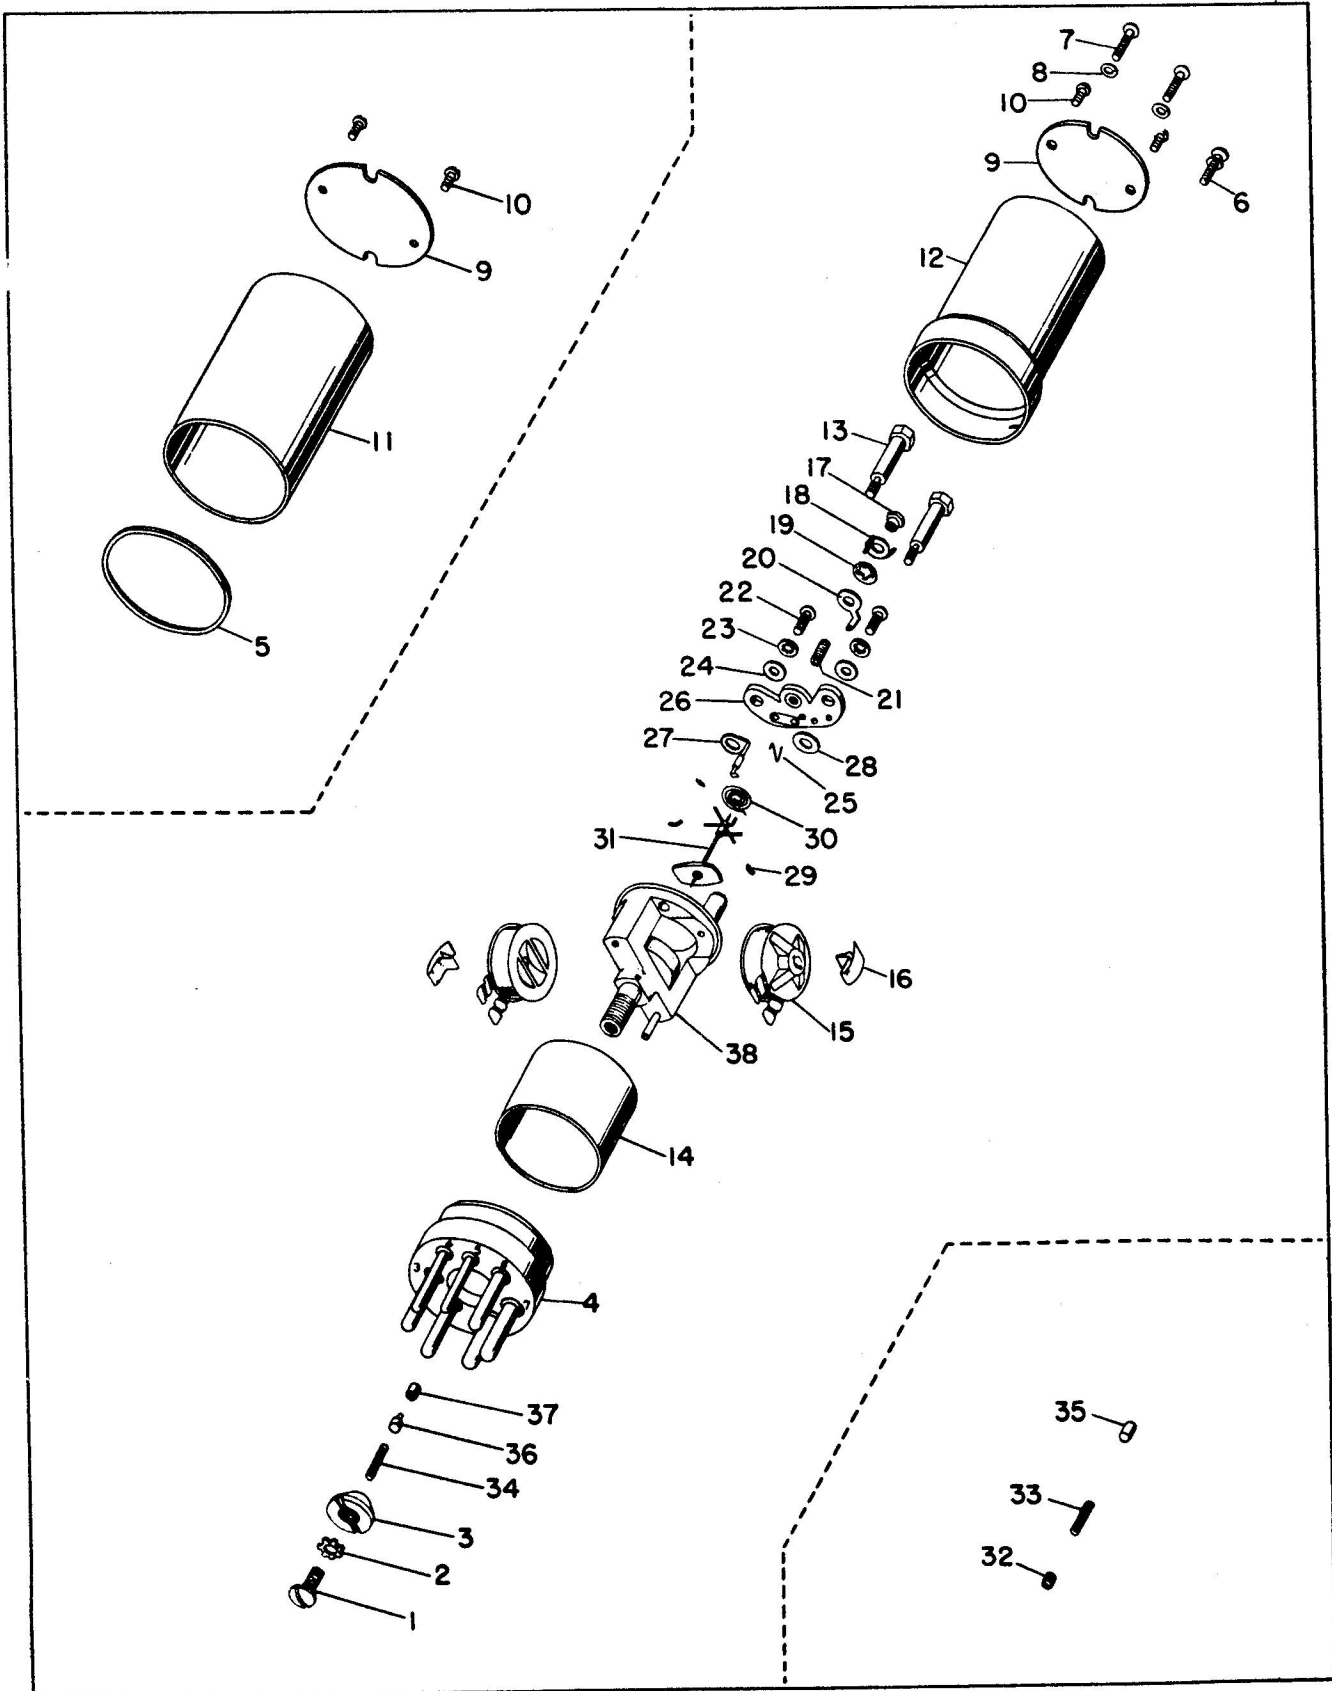
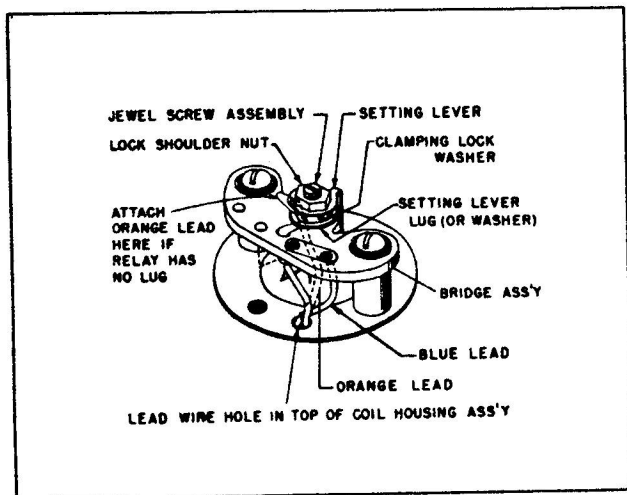
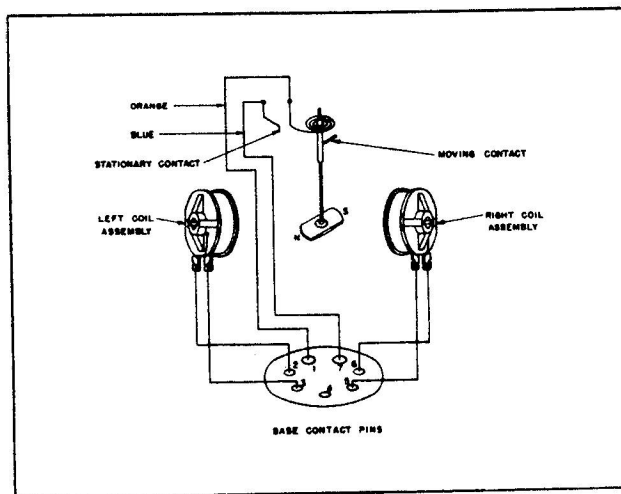

Figure 4-2, Exploded View of Sensitive Relay
Figure 4-3 Detail of Relay Bridge Region
Figure 4-4 Relay Pin Connections
d. Replace the housing nut lock screw (1), figure 4-2) and its lock washer (2) with the special screw prepared in step b.
Index Number Key for Figure 4-2.
c. Remagnetize the magnetic vane using a magnetic field of at least 2400 ampere turns. South magnetic pole of vane is end on contact wire side of rotor. (See figure 4-4.)
a. Holding coil housing assembly (38, figure 4-2) in upright position with hole for lead wires away from observer, place the stop plate assembly (27) on the left bridge support stud and the spacing washer (28) on the right stud.
c. Pass the two bridge mounting screws (22) through their lock washers (23) and flat washers (24) and secure the bridge to the studs therewith.
d. Screw the jewel screw assembly (21) into the bridge assembly until the jewel is flush with the lower side of the insert in the bridge.
e. Install the adjusting lever lug (20) on the jewel screw assembly with its terminal end projecting downward through the mating hole in the bridge. (See figure 4-3.) If a flat adjusting lever washer is used in place of the lug, install it on the jewel screw assembly.
its small face toward the bridge. (See figure 4-3.)
g. Place the setting lever on the jewel screw with the end which forms a 90 degree angle downward. (See figure 4-3.)
h. Place the jewel lock shoulder nut on the jewel screw assembly. (See figure 4-3.)
i. Solder the blue lead to the terminal of the left stationary contact wire. (See figure 4-3.)
j. Solder the orange lead to the setting lever lug terminal or, if none is used, to the upturned end of the setting lever. (See figure 4-3.)
k. Twist together blue, and orange wires, and pass them downward through the lead wire hole in the coil housing assembly. If orange lead is soldered directly to setting lever, allow sufficient lead length to permit lever to reach extreme adjustment position without tightening the wire. (See figure 4-3.)
l. Place the coil assemblies (15, figure 4-2) in position upon the coil housing assembly (38).
m. Press the coil side spring (16) into place with the bent ends away from the bridge assembly.
n. Slide the shield (14) up over the coil end of the housing assembly until it seats against the flange.
q. With base and pin assembly (4) positioned so that hole between No. 1 and No. 7 contact pins lines up with brass guide pin in bottom of coil housing assembly (38), slip base and pin assembly (4) over hollow threaded stud, allowing leads to pass into and through their respective contact pins. (See figure 4-4.)